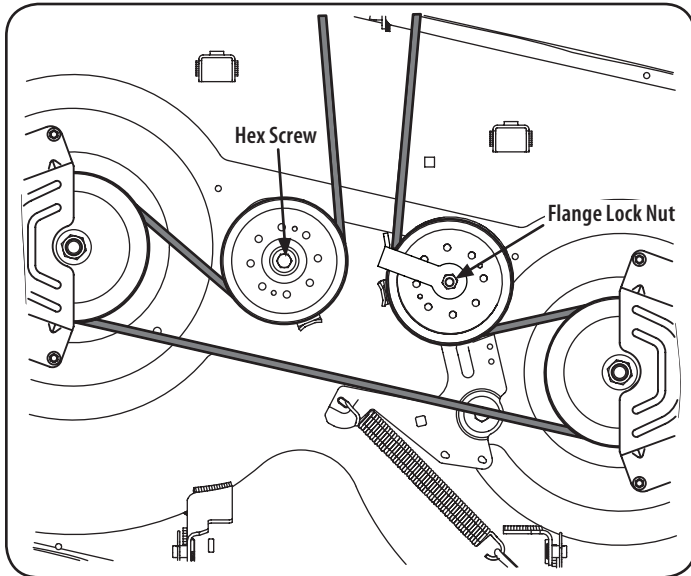

Figure 25
- Loosen, but do not remove the flange lock nut on the right idler pulley and the hex screw on the left idler pulley. See Figure 25.